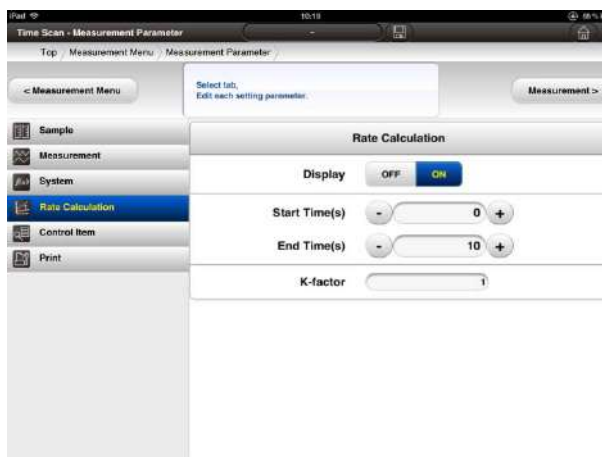

Fig. 4-146 Rate Calculation Conditions Window
- (1) Press  [Rate Calculation tab] to set rate calculation conditions.
- (2) The rate calculation conditions window (Fig. 4-146) will then be shown. Set the rate calculation conditions. See Table 4-64 for details.